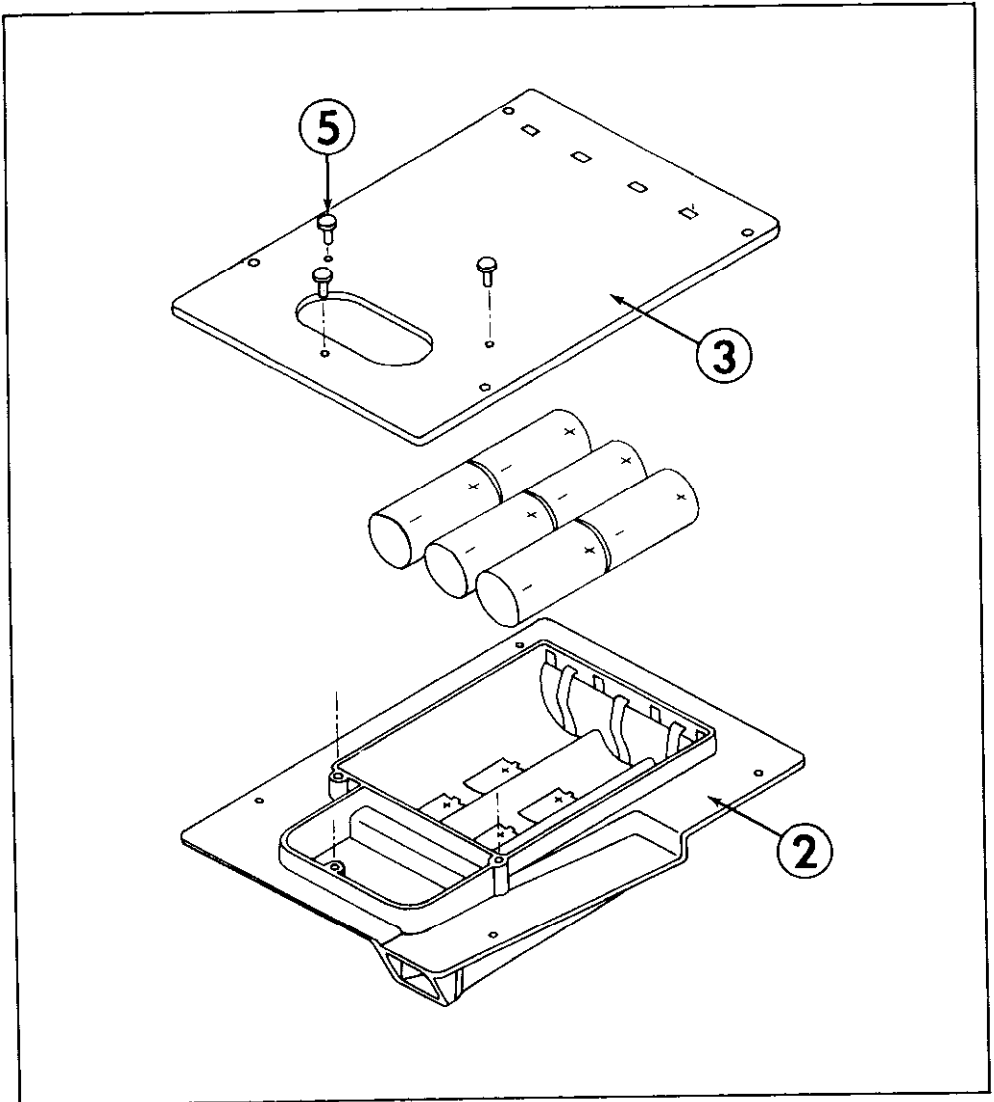

FIGURE 9. Battery Installation
a. Battery Operation Using Alkaline Cells. The Model 167 is useable for up to 20 hours of continuous operation from a set of six alkaline batteries. The battery condition may be checked at any time using the probe for a self-test. To test the batteries, remove the probe from the front panel, depress the "DCV" pushbutton and "push-to-read" switch along the top of the probe. Touch probe tip to the rear panel "BATTERY TEST" terminal and read the display. The reading should be greater than 6 volts for satisfactory battery condition. If the Model 167 fails to turn on, check for proper installation of the batteries as shown in Figure 9. If the voltage is too low, replace with new batteries as explained in paragraph 3-8c.
b. Battery Operation Using Nickel-Cadmium Cells. The Model 167 can also be powered by rechargeable nickel-cadmium batteries for up to 12 hours continuous operation. The battery condition may be checked at any time using the probe for a self-test. To test the batteries, remove the probe from the front panel, depress the "DCV" pushbutton and "push-to-read" switch along the top of the probe. Touch probe tip to the rear panel "BATTERY TEST" terminal and read the display. The reading should be greater than 7 volts for satisfactory battery condition. If the Model 167 fails to turn on, check for proper installation as shown in Figure 9. If the batteries are installed properly and the voltage is too low, connect the accessory Model 1671 Recharger as described in paragraph 3-8d and recharge the batteries. To ensure that the nickel-cadmium batteries are fully charged, recharge the batteries at least 16 hours. Since the Model 1671 Recharger is useable as a line power adapter, the Model 167 can be operated continuously even while recharging the batteries.
c. Battery Replacement. The battery compartment is accessible from the underside of the Model 167 chassis. Remove the battery cover (Item 3) by unscrewing the three slotted screws (Item 5) as shown in Figure 9. Grasp the battery cover using the opening as a handle and gently lift the cover while pulling toward the front panel to release the tabs. Remove the worn out batteries. Replace with new batteries as recommended in Table 3-1. When installing batteries, observe the polarity marked in the battery compartment. Replace the battery cover by aligning the four tabs to mate with the four slots on the chassis toward the rear panel. Make certain the tabs are fully engaged so that the 3 screw holes align properly. Replace the 3 screws to complete the reassembly.